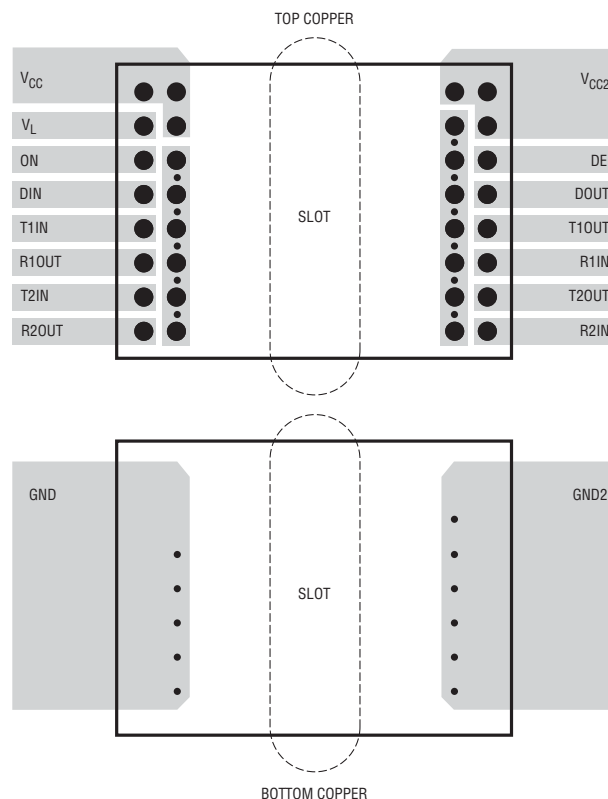

Figure 7. Recommended PCB Layout
The high integration of the LTM2882 makes PCB layout very simple. However, to optimize its electrical isolation characteristics, EMI, and thermal performance, some layout considerations are necessary. Figure 7 is a suggested layout for good thermal performance and to optimize isolation characteristics.
- The recommended layout of Figure 7 shows copper planes for GND and GND2, which is good practice to optimize signal fidelity and minimize emissions on either side of the isolation boundary. However, this creates a dipole antenna which can radiate differential voltages formed between GND and GND2. A small capacitance (<200pF) from GND to GND2, either discrete or embedded within the substrate, provides a low impedance path minimizing the high frequency differential voltages and substantially reducing radiated emissions. Care should be exercised in applying these techniques to insure the voltage rating of the isolation barrier is not compromised.